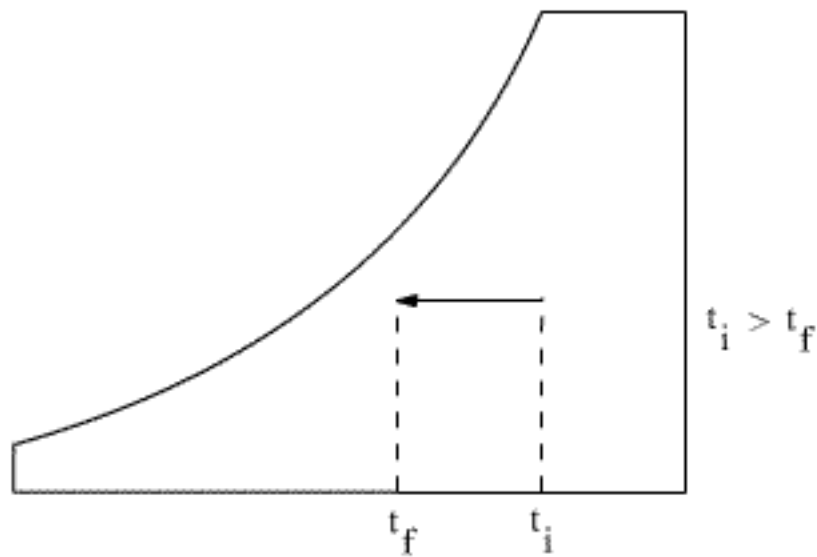

Figure 3.3. Cooling air without humidification
- 1) **Cooling:** is the process of extracting sensible heat to the air with an evaporator. The wet-bulb temperature and total heat content of the air decrease, and the relative humidity increases. There is no change in dew point or moisture content. (Figure 3.3.)